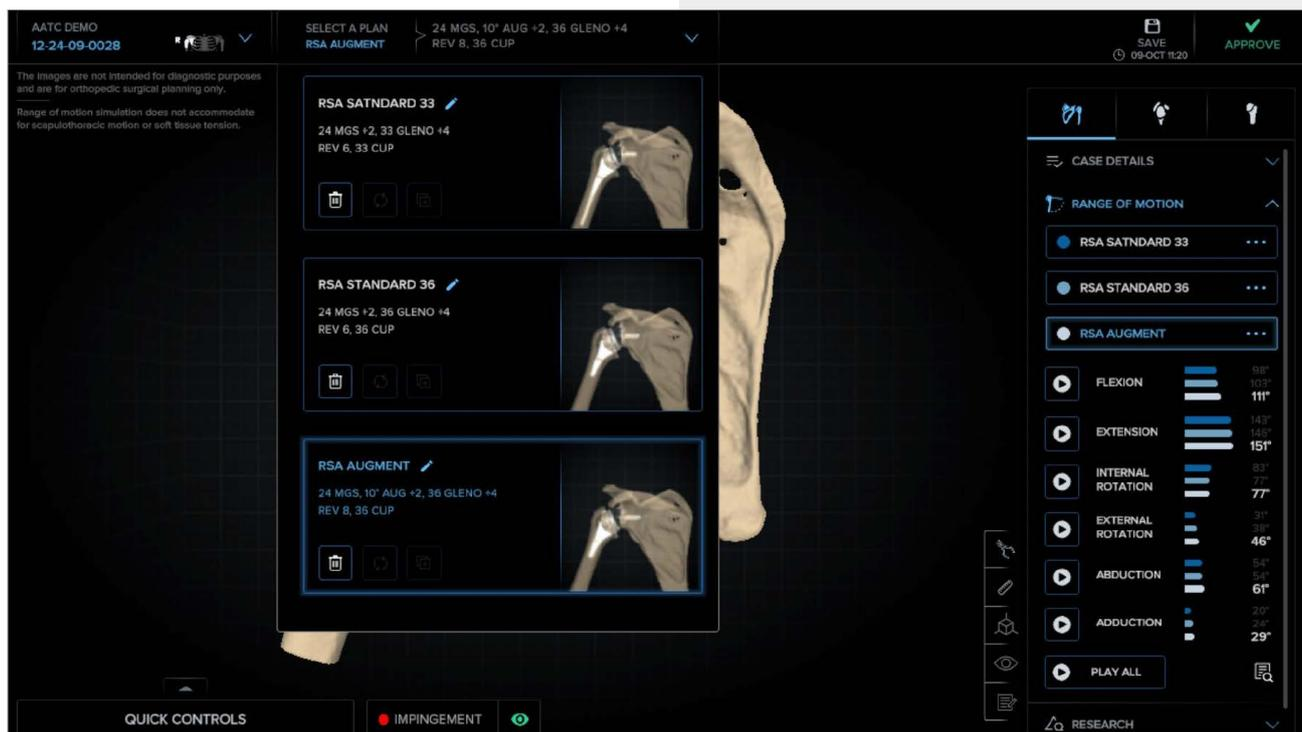

Figure 70. Range of motion comparisons
If a user would like to see how changes to implant selection, angulation, or position affect simulated range of motion, they may do so using the plan duplication workflow and navigating to the range of motion drop-down once up to 3 plans have both glenoid and humeral components selected as shown in Figure 70.
- Users may rename each plan as desired by clicking on the pencil icon next to the plan name as shown below in Figure 70 and entering the desired name in the text field that appears.